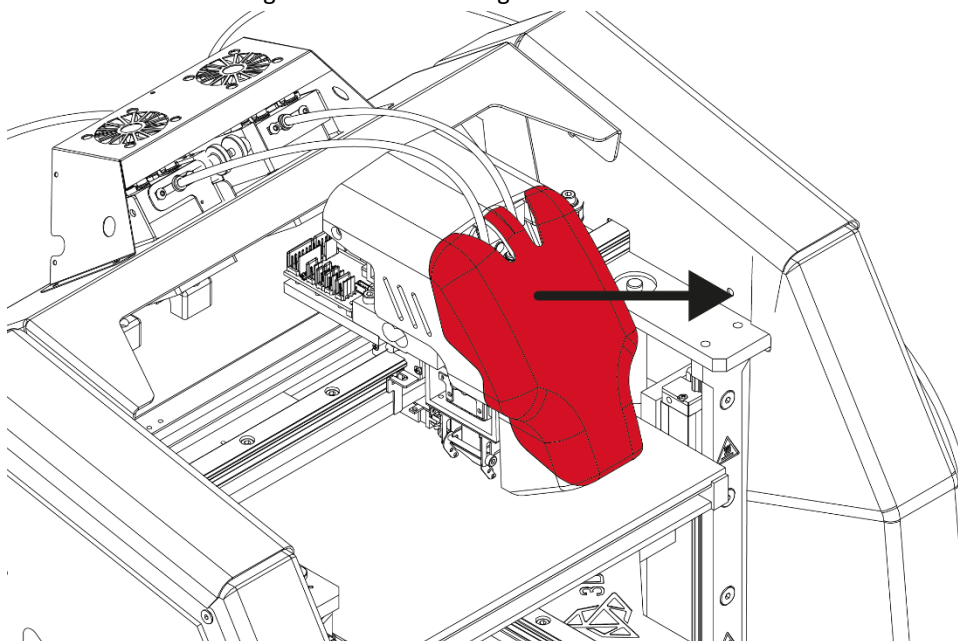

Fig. 51 Removing the module casing
3. Remove the front casing of the module (fig. 51) by pulling it towards you.